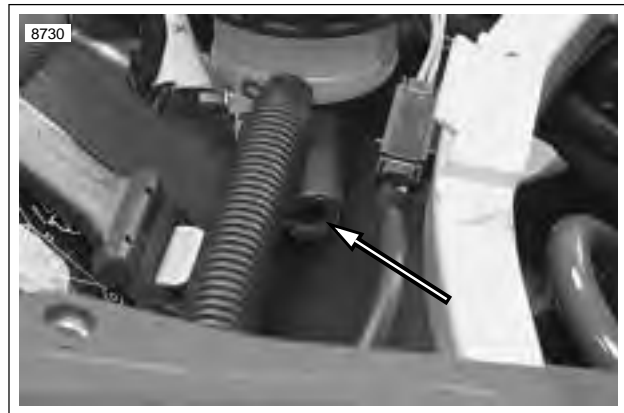

Figure 3-41. Transmission Vent Line
6. See Figure 3-41. Route transmission vent line up through left side of frame exiting under the rear master cylinder under the rider's seat. Install two tie wraps to secure transmission vent line in place. Inspect vent line to verify space between vent line and rear exhaust.